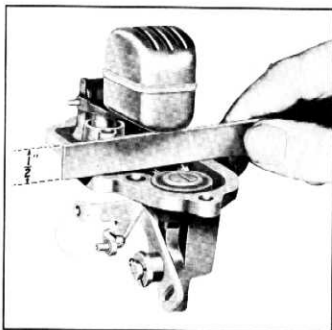

Fig. 84—Checking Carburetor Float Level
- With bowl cover upside down measure the distance from the top of the float to the machined under surface of the bowl cover (fig. 84).